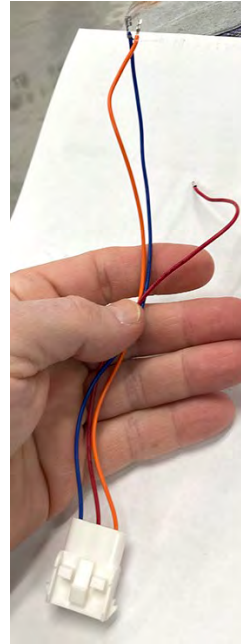
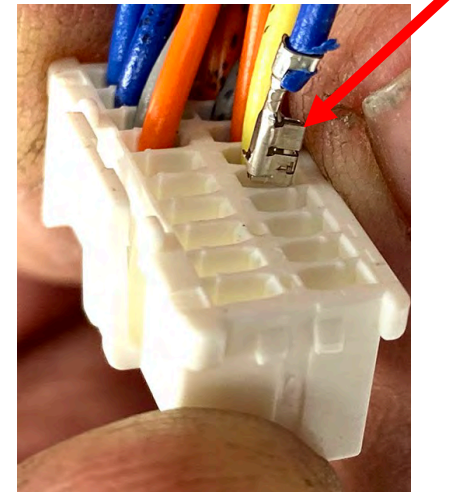

Figure 24
Figure 25
- h. Using the 3-pin harness removed in the previous step (see Figure 24), insert the blue wire below the yellow wire, on the J1 vertical connector attached to the SIB board (see Figures 25 and 26). **(NOTE: Orient the flag of the wire terminal towards the outer edge of the plastic connector (see Figure 25).**